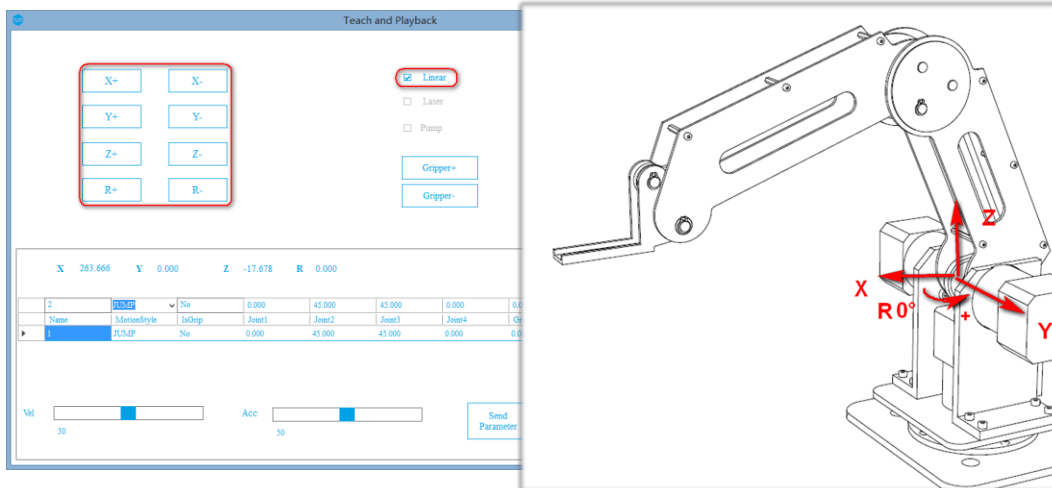

Figure 3.4 Coordinate frame
2. **Joint Jog/ Linear Jog mode switch:** click **②Linear** to choose **Linear Jog Mode**. Now the center's coordinate of the end of robot arm is the target object. The three joints will run in cooperation to enable the robot arm move linearly in x, y, z direction.
3. **Linear Jog:** the coordinate frame of the robot arm is shown in Figure 3.4 left, the original point locates at the cross point of the shafts of three stepper-motors.